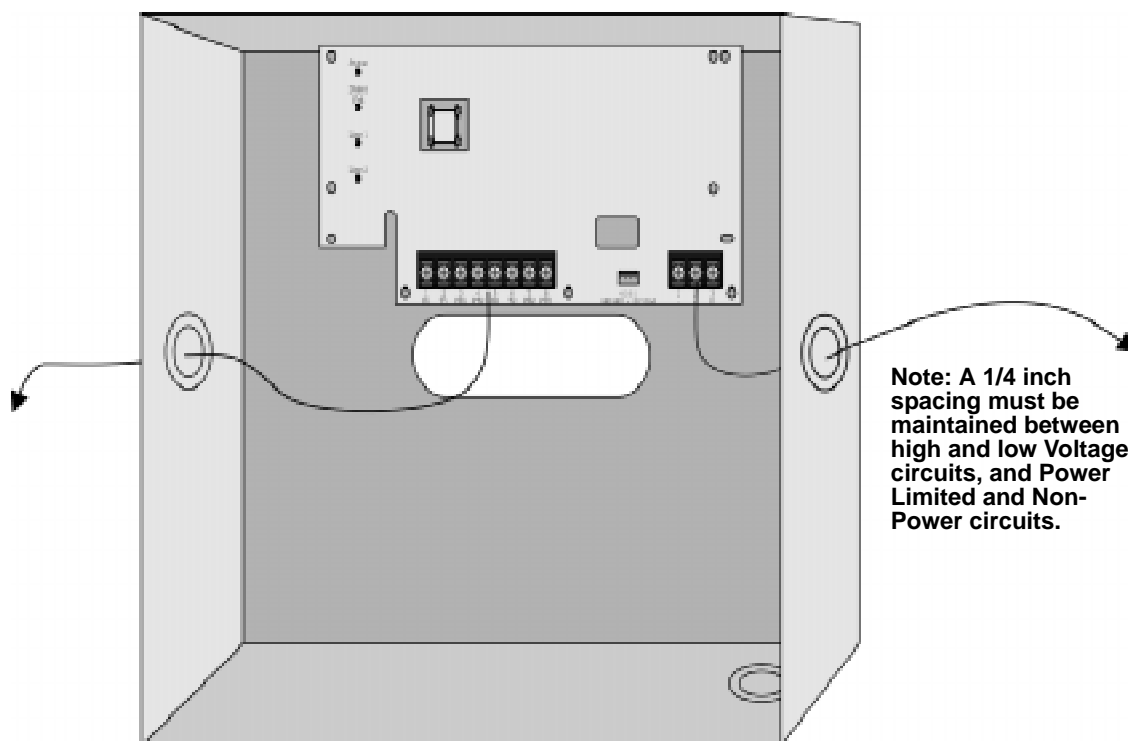

Figure 3-1 Wire Routing Example
- Route the wiring around the inside perimeter of the cabinet. It should not cross the circuit board where it could induce noise into the sensitive microelectronics and/or pick up unwanted RF noise from the high speed circuits. See Figure 3-1 for an example.